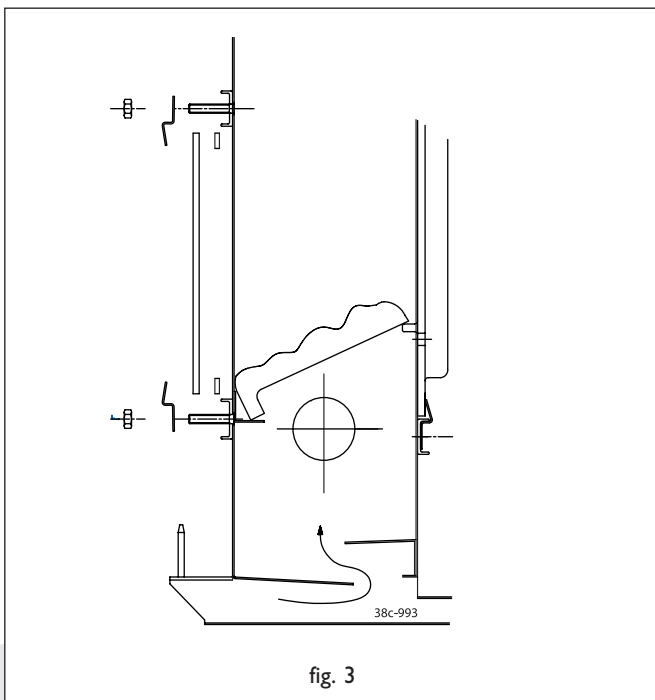

fig. 3
- Evenly distribute the glowing coals on the grille in the combustion chamber (fig. 3).